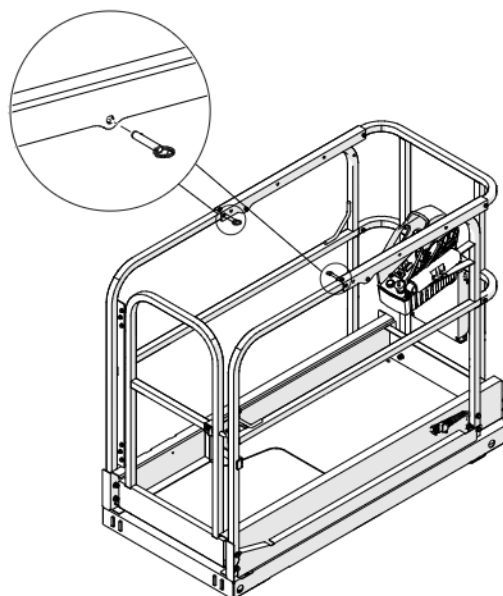

Figure 03 Lock pin location
1. Remove the **lock pins** for the extension platform. Refer to Figure 03.
3. Install the **lock pins** to lock the extension platform at the necessary position. Refer to Figure 03.